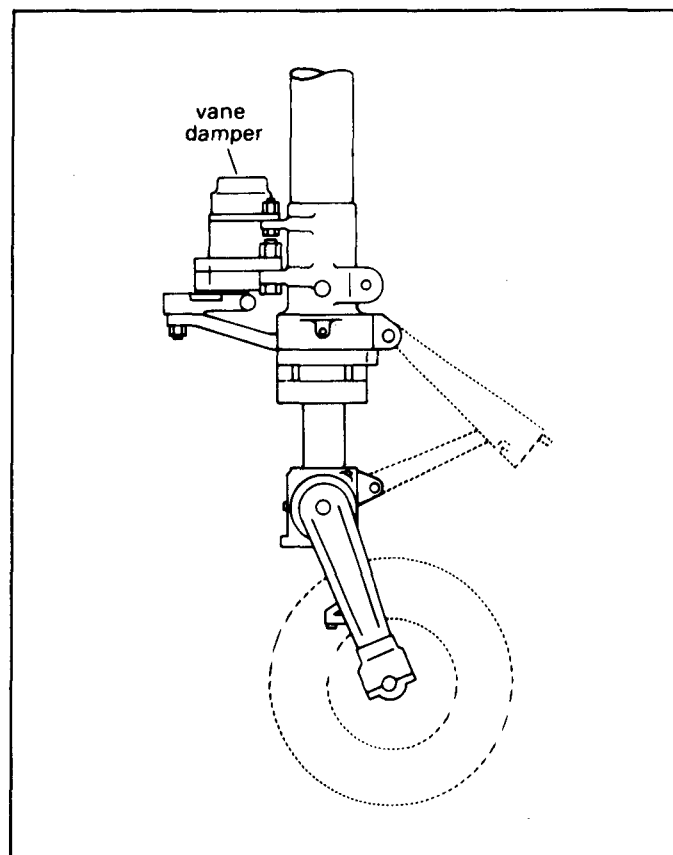

Figure 11-8. Nose landing gear with vane damper.
- Nose landing gear damper. A vane-type damper is used on the nose landing gear of some aircraft to eliminate the shimmy tendency. (See Figure 11-8.)